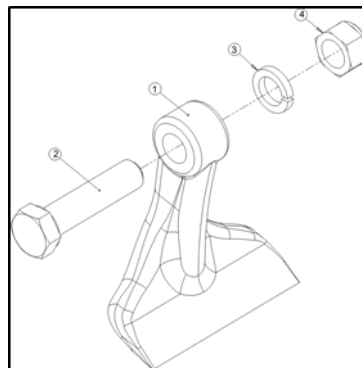

Figure 8
Hammer blades replacement steps (See **Figure 8**):
4. Install blade with bolt, spring washer and locknut, refer to **Figure 8**.